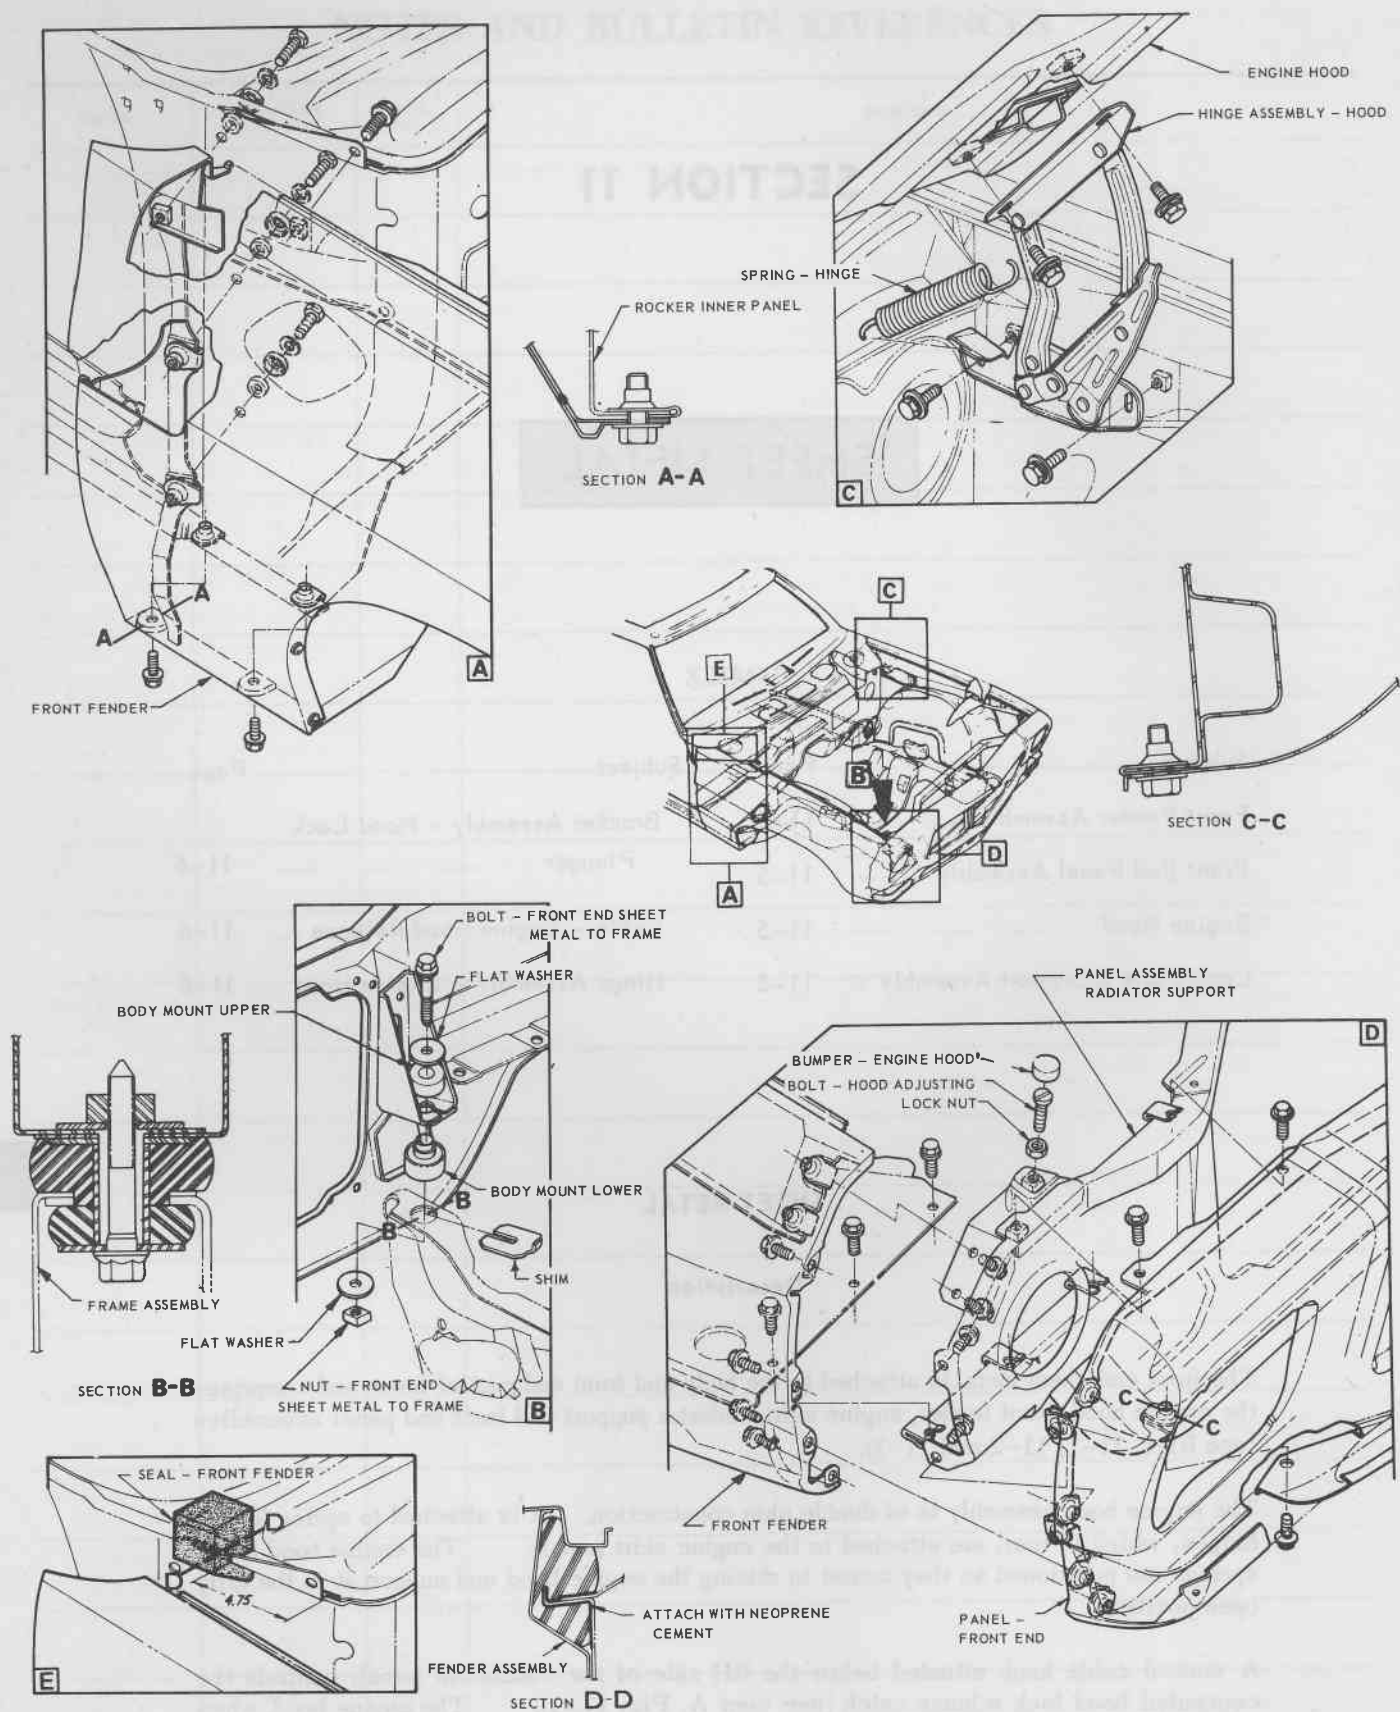
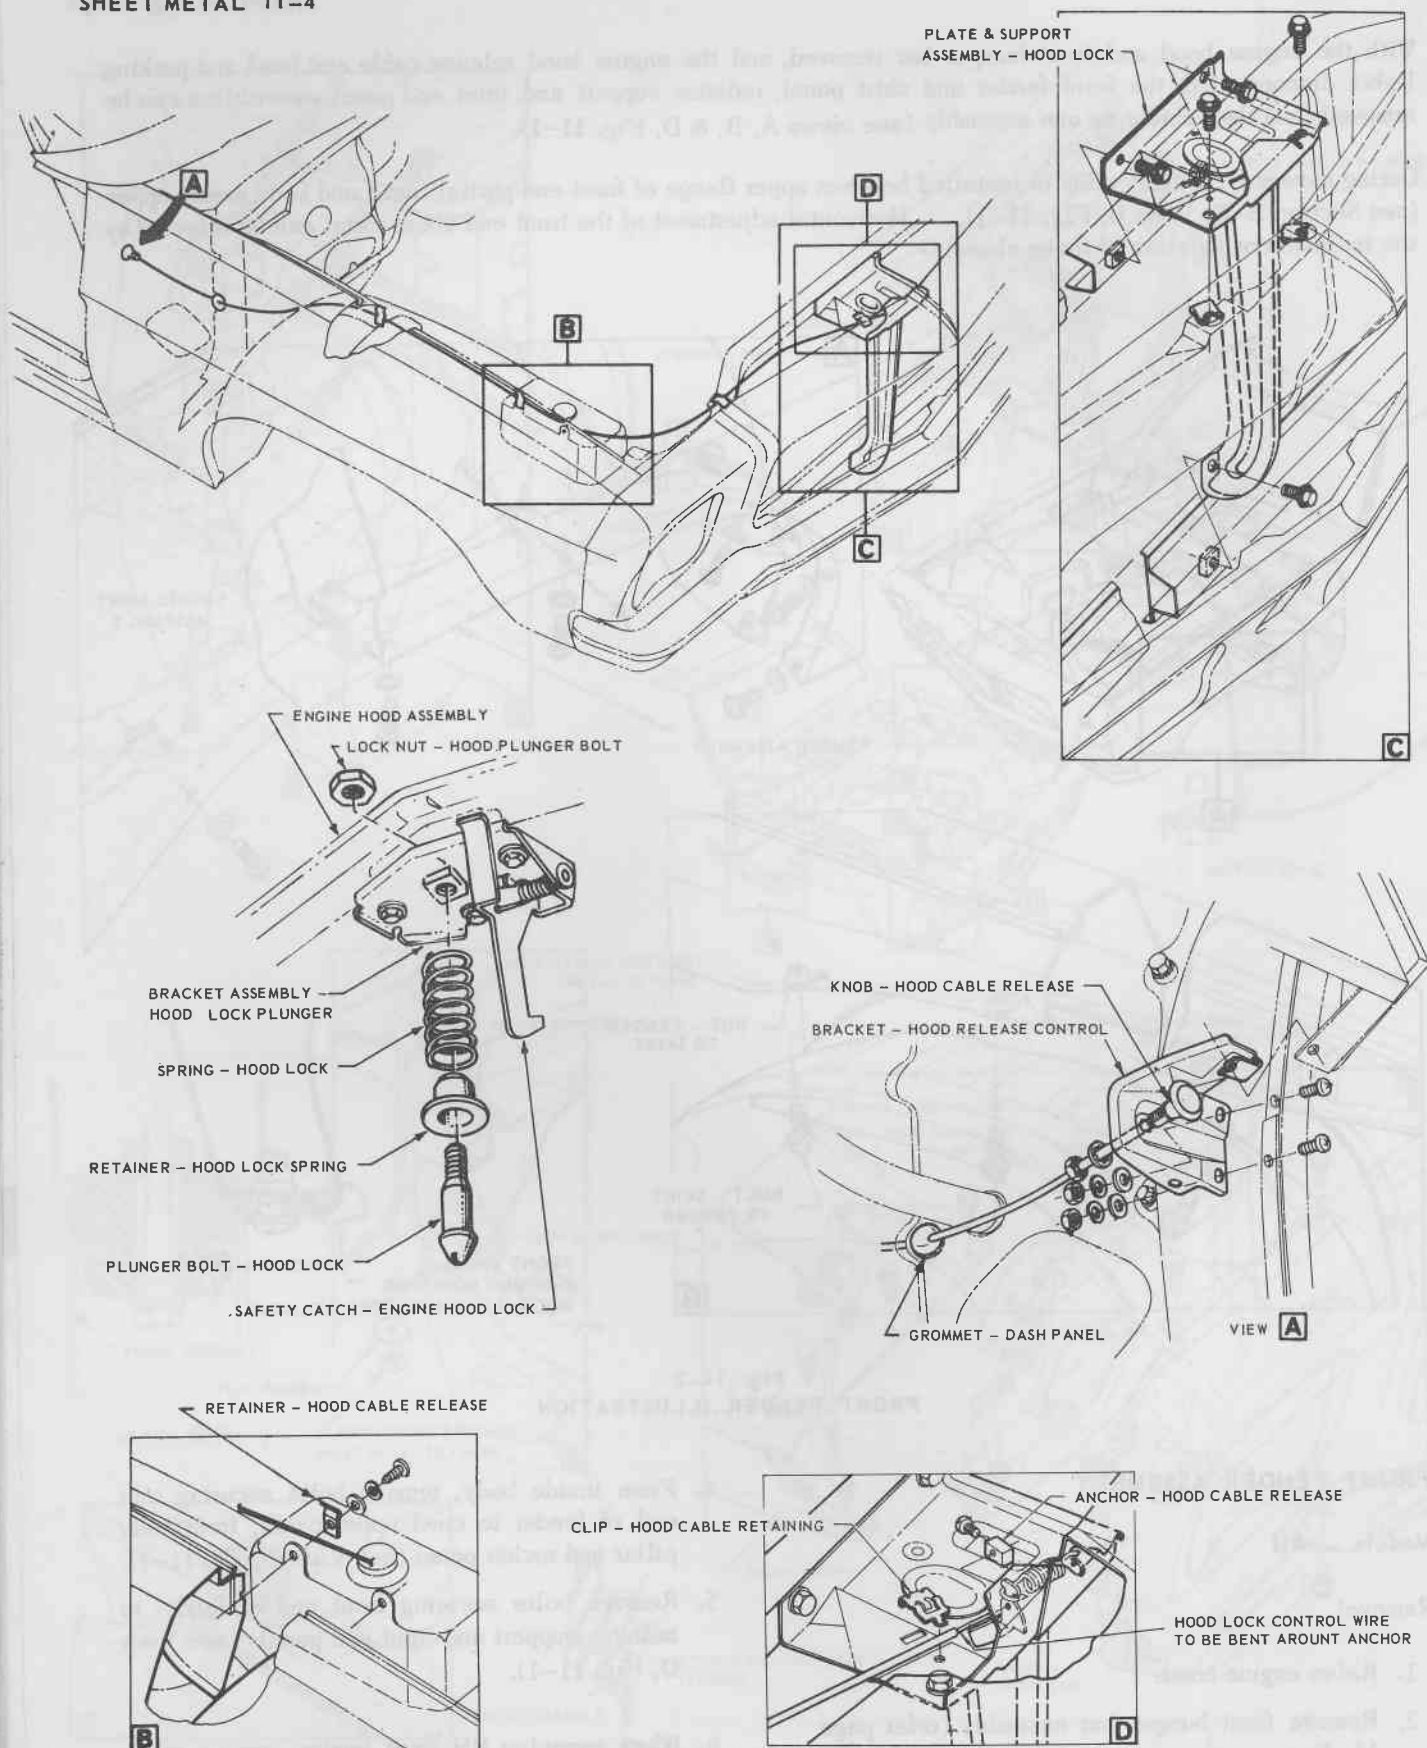

Fig. 11-1
Fig. 11-3
The front end sheet metal is attached to the body and front end partial frame and comprises the engine hood, front fender, engine skirt, radiator support and front end panel assemblies (see Figs. 11-1, 11-2 and 11-3).
A control cable knob situated below the RH side of the instrument panel, controls the concealed hood lock release catch (see view A, Fig. 11-3). The engine hood, when released from the locked position, engages on a secondary safety catch. To open the hood following its release from the locked position, insert the fingers beneath leading edge of engine hood, then press upwards on the catch.
With the engine hood and front bumper bar removed, and the engine hood release cable and head and parking lights disconnected, the front fender and skirt panel, radiator support and front end panel assemblies can be removed from the vehicle as one assembly (see views A, B, & D, Fig. 11-1).
During assembly, a .020" shim is installed between upper flange of front end partial frame and body mount upper (see Section B-B, View B, Fig. 11-1). Horizontal adjustment of the front end sheet metal can be effected by the inclusion or deletion of these shims.
4. From inside body, remove bolts securing rear end of fender to cowl upper panel, front body pillar and rocker panel (see View A, Fig. 11-1).
5. Remove bolts securing front end of fender to radiator support and front end panels (see View D, Fig. 11-1).
Reverse removal operations, ensuring that the front fender seal attached to the cowl upper flange seals effectively (see Section D-D, View E, Fig. 11-1).
4. Remove bolts securing front of hood lock support assembly to front end panel (see View C, Fig. 11-3).
5. Remove bolts securing front end panel assembly to front fender and radiator support panel and remove assembly (see View D, Fig. 11-1).
Slots in engine hood hinge brackets to hood inner panel and fender assemblies provide vertical and horizontal adjustment for rear end of engine hood. (see View C, Fig. 11-1).
Vertical adjustment to front end of engine hood is provided by adjustable engine hood bumpers attached to both sides of radiator support panel and to an adjustable hood lock bolt (see View D, Fig. 11-1 and Fig. 11-3).
2. Disconnect hood cable release anchor and retaining clip (see View D, Fig. 11-3).
3. Remove screws securing lock plate and support assembly to radiator support and front end panel. (see View C, Fig. 11-3) and remove assembly.
1. With engine hood raised, loosen lock plate and support assembly to radiator support and front end panel attaching screws (see View C, Fig. 11-3).
5. To achieve correct engagement between lock plunger bolt and lock plate, position an open ended spanner between hood lock plunger bracket assembly and engine hood (see Fig. 11-3), loosen lock nut and using a screwdriver, turn plunger bolt clockwise to increase tension and anti-clockwise to achieve opposite effect.
2. Remove screw attached hood lock bracket from engine hood assembly (see Fig. 11-3).
2. Disconnect front end of engine hood release cable from cable anchor and retaining clips securing cable to lock plate, radiator support panel and front fender (see Views B, C, and D, Fig. 11-3).
3. From within vehicle, to right of steering column and from below instrument panel, withdraw control knob and cable assembly (see View A, Fig. 11-3).
3. With an assistant supporting engine hood, remove bolts securing hinge assembly to hood inner panel and front fender and remove assembly (see View C, Fig. 11-1).